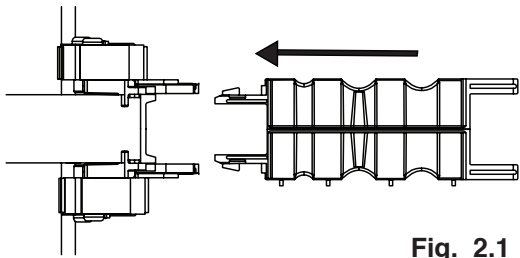

Fig. 2.1
Each Angle Brace has a slotted receiver (female end) for the Extender Arm prongs (male end) to insert into (Fig. 2.1). Once installed the Extender Arms will give you a platform to install your GenTent Frame Rods into.
- Push the Extender Arm straight into the Angle Brace until the pivot pins snap into place (Fig. 2.1)